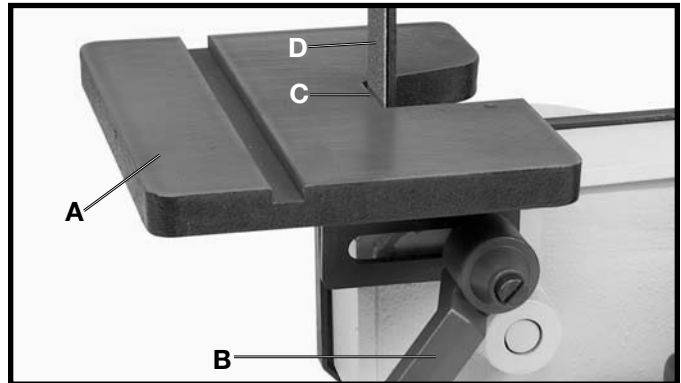

Fig. 25
The belt sander table (A) Fig. 25, can be tilted or moved in or out by loosening lock handle (B), moving the table to the desired position, and tightening lock handle (B). **NOTE:** The lock handle (B) is spring-loaded and can be repositioned by pulling out on the handle and repositioning it on the serrated locking stud located directly under the handle.
⚠ WARNING: TO AVOID TRAPPING THE WORK OR FINGERS BETWEEN THE TABLE AND SANDING BELT, THE TABLE EDGE (C) FIG. 25, SHOULD BE POSITIONED A MAXIMUM OF 1/16 INCH FROM SANDING BELT (D) AS SHOWN.